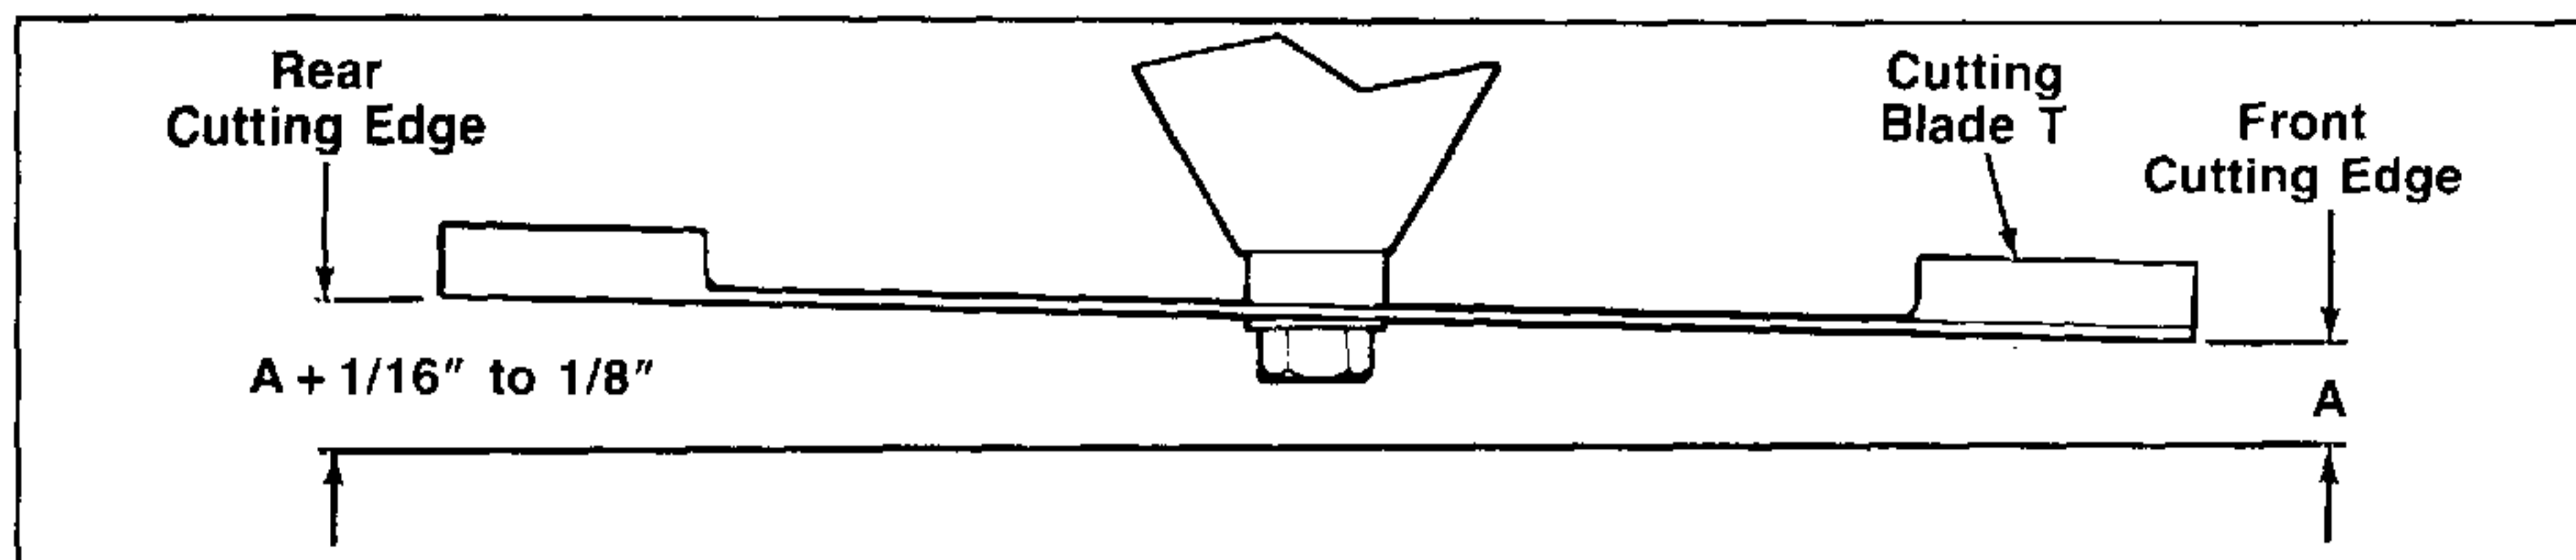

FIGURE 15.
5. Refer to figure 15. Measure and record the distance from the hard, level surface to the **CUTTING EDGE** at the front and rear of each of the blades. Hereafter, these measurements will be referred to as the cutting-edge-to-ground distances.
11. With the lift handle in position number 6, repeat and record the blade measurements described in step 5. Refer to your recorded cutting-edge-to-ground measurements. Each of the two blades must have a downward tilt toward the front of the tractor. A proper tilt is achieved when a blade's rear cutting-edge-to-ground measurement (measurement A + , figure 15) is 1/16 to 1/8 inch higher than that blade's front cutting-edge-to-ground measurement (measurement A, figure 15). If a proper tilt does not exist for one or both of the blades, refer to step 12.